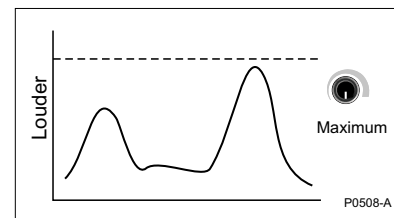

Figure 4.9 Maximum volume
Sets a maximum limit on the loudness of the target signal obtained from a large target. Refer to Figures 4.9 - 4.11. The dotted line in these figures represents the level of volume set by the volume control.
- If the **Volume** is set to maximum (fully clockwise), the target signal is unaltered and proportional to the target size and depth (see Figure 4.9).